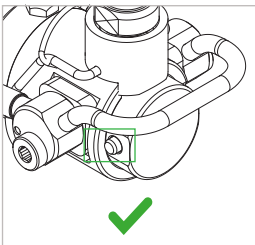

Figure 10
- Attention:** The safety peg (Pos. 5) at the connector must be extended after pressure is applied (Figure 10). The actuation is blocked, the connector cannot be disconnected when it is pressurized.